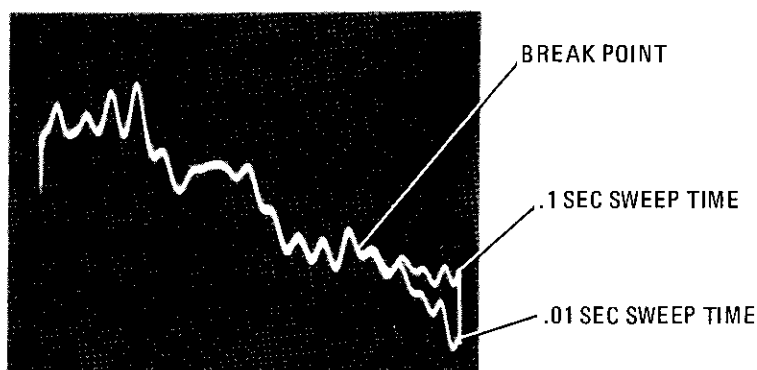

Figure 5-10. Fast Sweep Compensation Waveform
- w. Adjust A2 Comp Break Point control A2R55 clockwise to move compensation break point lower in frequency to point indicated in Figure 5-10.